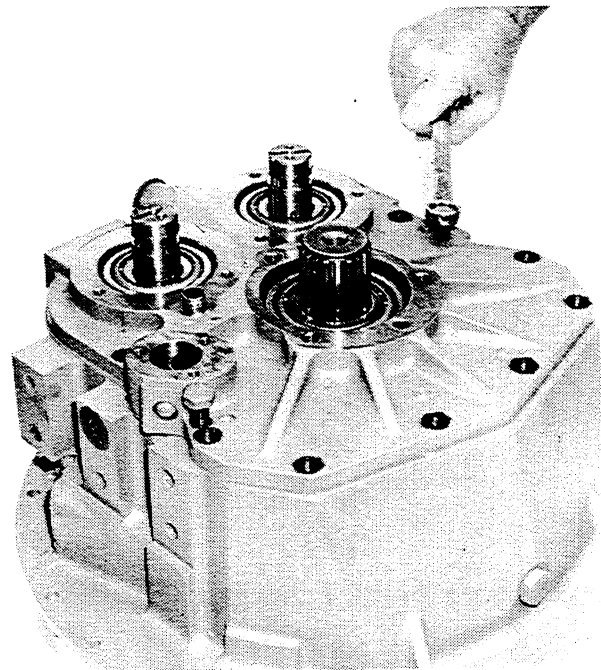

Figure 6-8. Using Pusher Screws to Remove Rear Cover.
17. Remove the nine hex-head capscrews (Figure 12-1, 15 and 49) that secure the rear cover (14) to the main housing (2). See Figure 6-8. Use two 1/2-13 pusher screws and remove the rear cover and the main housing gasket (Figure 12-1, 13) from the main housing. Do not remove the two dowel pins (9) from the rear cover or main housing. Remove the bearing cups of the output shaft tapered roller bearing (Figure 12-2, 21), the forward clutch shaft tapered roller bearings (Figure 12-3, 21), and the reverse clutch shaft tapered roller bearing (Figure 12-4, 21) from the rear cover only if replacement of parts is necessary.